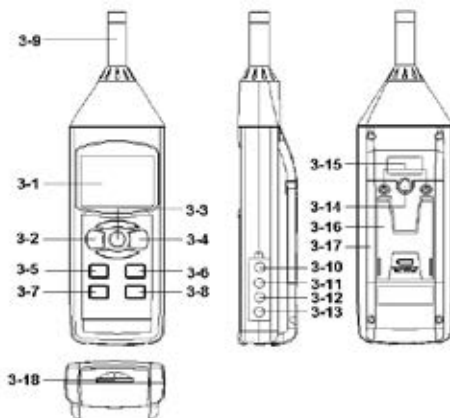

Fig. 1
1) Power on by pressing the "Power On/Off Button" (3-2, Fig. 1), the meter's default function is "Auto range", "A frequency weighting" & "Fast time weighting". The LCD display will show the unit "A. Fast Auto".
2) Select «A» or «C» frequency weighting by pressing the «A/C Button» (3-6, Fig. 1).
3) Determine proper measuring range by pressing the «Range Button» (3-5, Fig. 1). After power on the default range is «Auto range». In the same time the lower right display will show the text of «Auto». Under the auto range, press the «Range Button» (3-5, Fig. 1) once step by step will enter to the manual range (range 1, range 2, range 3) and auto range in sequence. There are still 3 manual ranges for your choice:
4) According to various measuring sound source, select the Time Weighting (Fast or Slow) by pressing the «Time Weighting Button» (3-7, Fig. 1).
During the measurement, press the «Hold Button» (3-3, Fig. 1) once will hold the measured value & the LCD will display a «HOLD» symbol. Press the «Hold Button» once again will release the data hold function.
1) The data record function records the maximum and minimum readings. Press the «REC Button» (3-4, Fig. 1) once to start the Data Record function and there will be a «REC» symbol on the display.
a) Press the «REC Button» (3-4, Fig. 1) once, the «REC MAX» symbol along with the maximum value will appear on the display. If intend to delete the maximum value, just press the «Hold Button» (3-3, Fig. 1) once, the display will show the «REC» symbol only & execute the memory function continuously.
b) Press the «REC Button» (3-4, Fig. 1) again, the «REC MIN» symbol along with the minimum value will appear on the display. If intend to delete the minimum value, just press the «Hold Button» (3-3, Fig. 1) once, the display will show the «REC» symbol only & execute the memory function continuously.
After power ON, the «LCD Backlight» will light automatically. During the measurement, press the «Backlight Button» (3-2, Fig. 1) once will turn OFF the «LCD Backlight». Press the «Backlight Button» once again will turn ON the «LCD Backlight» again.
Prepare a «SD memory card» (1 GB to 16 GB, optional), insert the SD card into the «SD card socket» (3-18, Fig. 1). The front panel of the SD card should face against the the down case.
Press the «REC Button» (3-4, Fig. 1) once, the LCD will show the text «REC», then press the «Logger Button» (3-8, Fig. 1), the «REC» will flashing sound, at the same time the measuring data along the time information will be saved into the memory circuit.
During execute the Datalogger function, if press the «Logger Button» (3-8, Fig. 1) once will pause the Datalogger function (stop to save the measuring data into the memory circuit temporarily). In the same time the text of «REC» will stop flashing.
Remark: If press the «Logger Button» (3-8, Fig. 1) once again will execute the Datalogger again, the text of «REC» will flashing.
During pause the Datalogger, press the «REC Button» (3-4, Fig. 1) continuously at least two seconds, the «REC» indicator will be disappeared and finish the Datalogger.
Press the «REC Button» (3-4, Fig. 1) once, the LCD will show the text «REC», then press the «Logger Button» (3-8, Fig. 1) once, the «REC» will flashing once, at the same time the measuring data along the time information and the Position no. will be saved into the memory circuit.
* During execute the Manual Datalogger, press the «SET Button» (3-7, Fig. 1) once, then use the «▲ Button» (3-5, Fig. 1) or «▼ Button» (3-6, Fig. 1) to set the measuring position (1 to 99, for example room 1 to room 99) to identify the measurement location. After finish the adjustment location no., press the «Enter Button» to entry.
Press the «REC Button» (3-4, Fig. 1) continuously at least two seconds, the «REC» indication will be disappeared and finish the Datalogger.
During the measurement if press «Time check Button» (3-5, Fig. 1) > 2 seconds, the lower LCD display will present the time information of Year/Month, Date/Hour, Minute/Second.
During the measurement, If press «Sampling Check Button» (3-6, Fig. 1) once, the lower LCD display will present the Sampling time information in second unit.
1) After execute the Data Logger function, take away the SD card out from the «SD card socket» (3-18, Fig. 1).